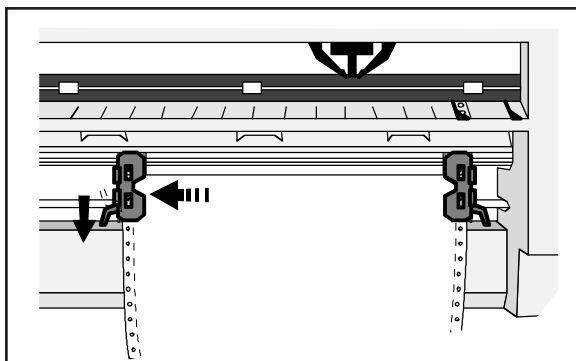

Figure 3-8. Making Sure the Paper is Taut
7. Slide the right-edge tractor as needed to make the paper just slightly taut between the tractors, as shown in figure 3-8. Then, lock the right-edge tractor into place.